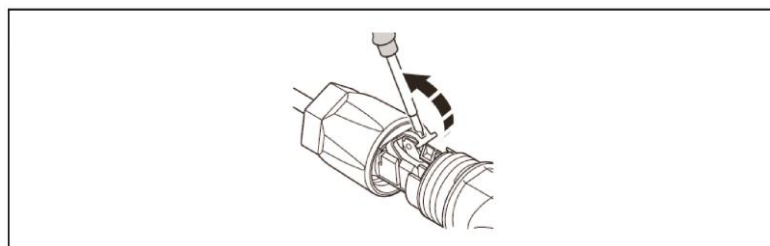

Figure 5-14
3. Open the spring in the plug using a screwdriver (Figure 5-14).